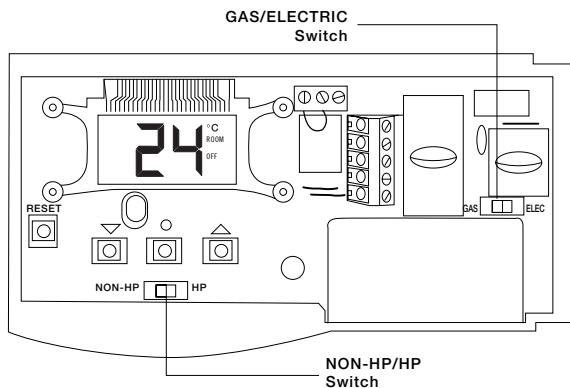

Figure 6
15. Set the GAS/ELEC switch to either GAS for a gas/oil heating system or ELEC for an electric heating system (Figure 6).
16. Set the HP/NON-HP switch to either the HP for heat pump or NON-HP for furnace applications (Figure 6).